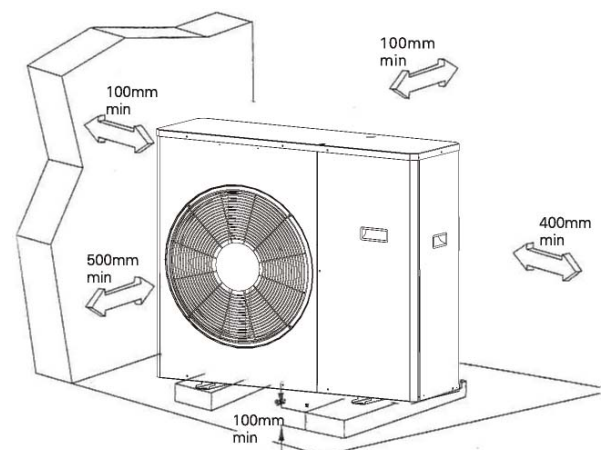

Fig 2
- 1 .The location must allow easy servicing and provide good air circulation as shown in fig2. 2.The unit may be suspended from a wall by a bracked(Optional)or located in a free standing position on the floor(preferably slightly elevated).
- 6.Refer to figure 2 for allowed installation distances.